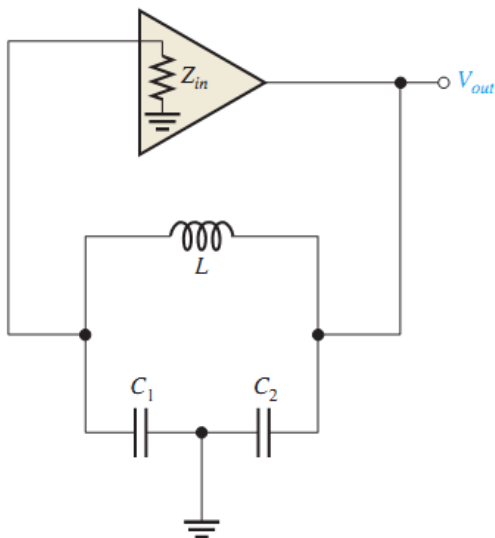

Figure 17 Z_{in} of the amplifier loads the feed-back circuit and lowers its Q , thus lowering the resonant frequency.
- A FET can be used in place of a BJT, as shown in Figure 17 to minimize the loading effect of the transistor's input impedance.